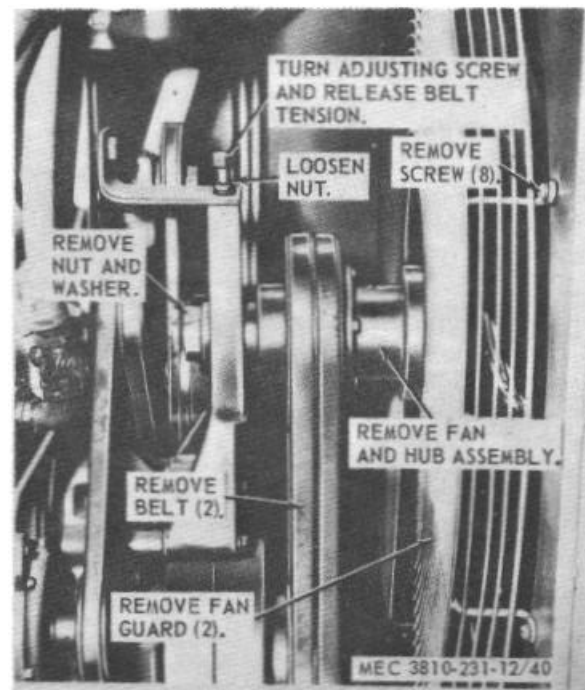

Figure 40. Fan guard and fan, removal and installation
a. *Removal.* Remove the fan guard and fan as instructed in figure 40.
(1) Clean all parts in an approved cleaning solvent and dry thoroughly.
(2) Inspect for cracks, breaks, and other damage.
(3) Replace damaged or defective parts as necessary.
c. *Installation.* Install the fan and fan guard as instructed in figure 40.